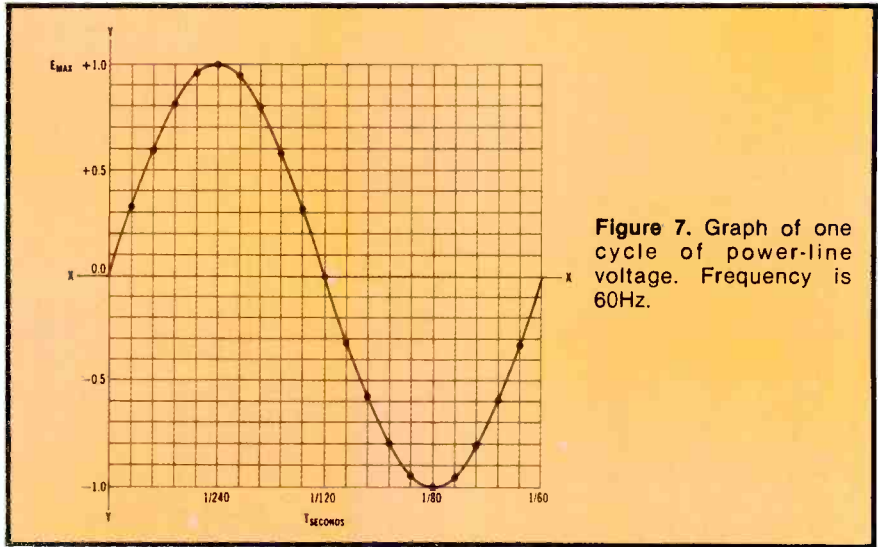

Figure 7. Graph of one cycle of power-line voltage. Frequency is 60Hz.
Figure 7 shows a graph of one cycle of voltage having a frequency of 60Hz. Instantaneous voltage is plotted above or below the X or horizontal axis; elapsed time is plotted to the right of the vertical axis (Y) and measured in fractions of a second. The peak voltage is taken as 1 to simplify plotting the graph. This curve is called a sine curve because the amplitude or Y value at any point on the curve equals the maximum value of E (in this case, 1) times the sine of the X value at that point. (X must be converted to degrees, with one com-